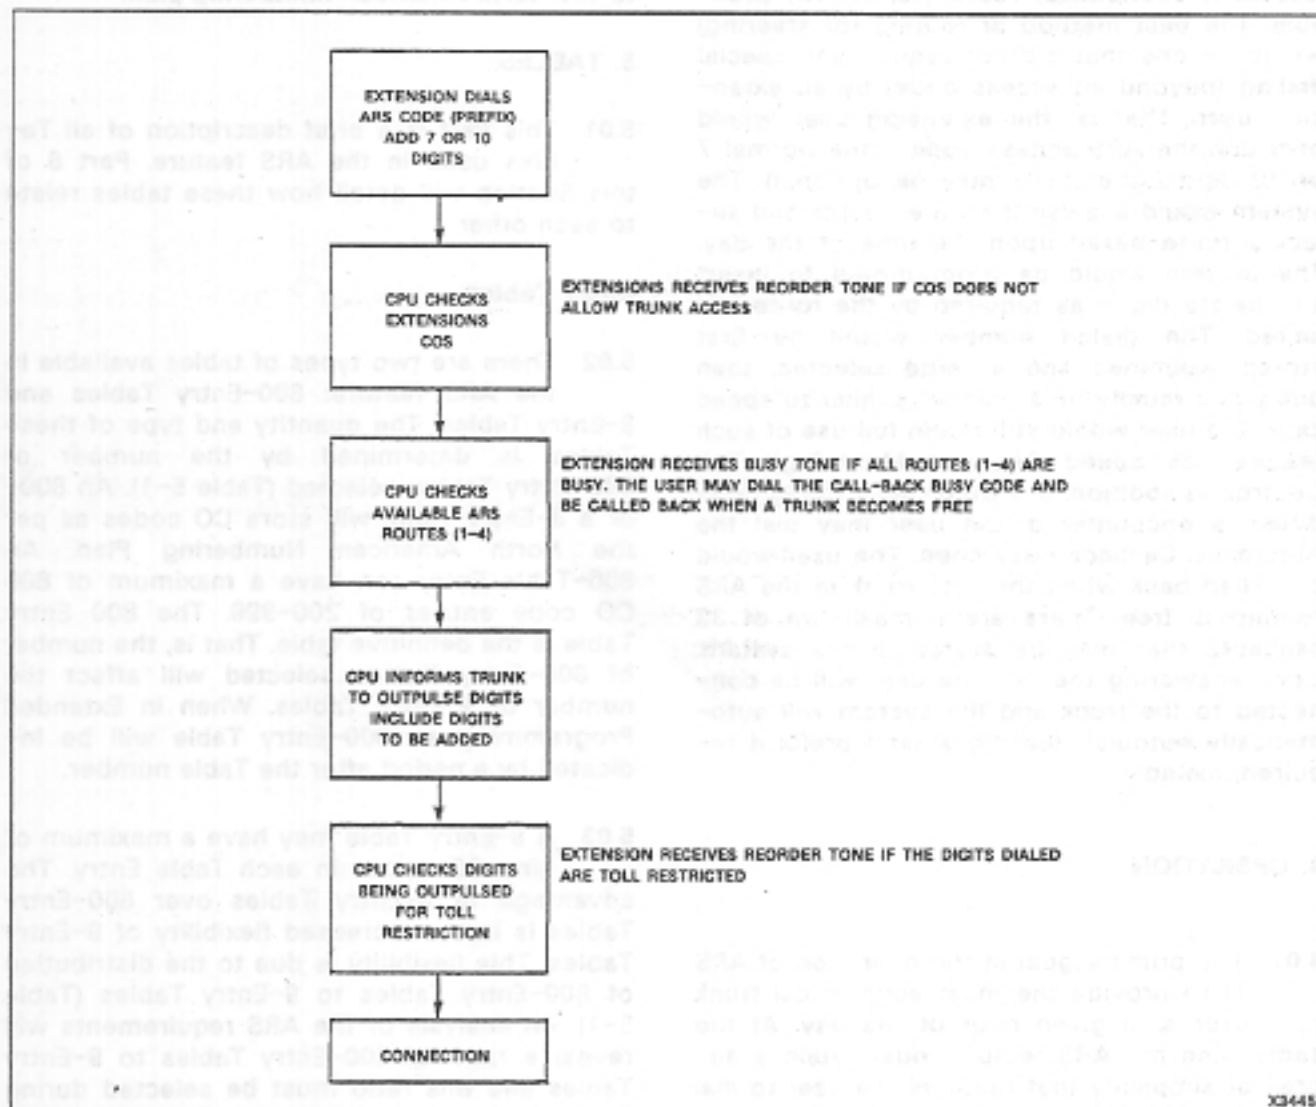

Fig. 4-1 ARS Operation
4.01 The primary goal in the operation of ARS is to provide the most economical trunk to a user at a given hour of the day. At the same time the ARS feature must retain a degree of simplicity that requires the user to dial only the ARS feature code, then normal digits (Fig. 4-1).